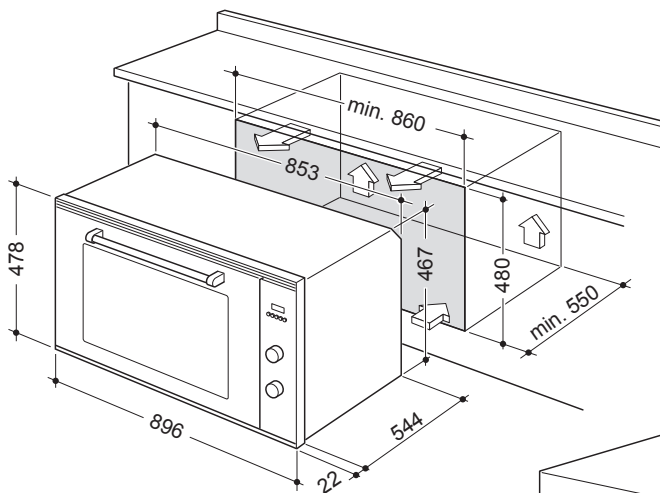

Figure 1
- Installation requires a compartment as illustrated in figures 1 and 2.
It is essential that when installing your oven adequate air circulation is allowed for within the installation. See figures 1 - 2.